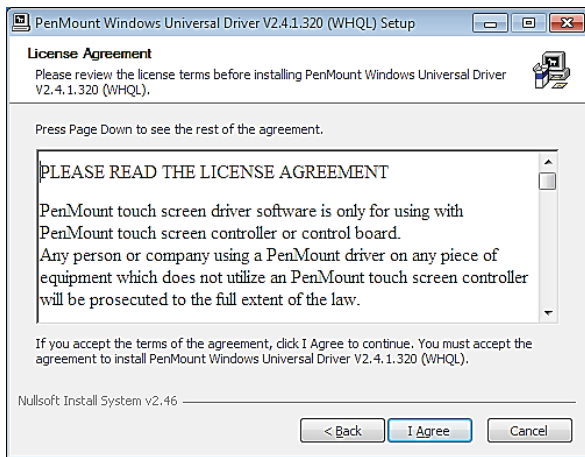

Fig.3
Step 3: When the license agreement appears, click “I Agree” to continue (Fig.3).